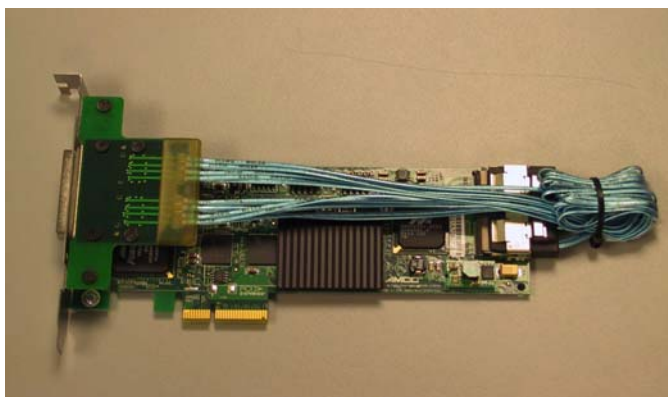

Figure 3-1
- 1) Unpack the custom 8-channel PCI Express *3ware* RAID controller card provided by MaxVision as illustrated in Figure 3-1.